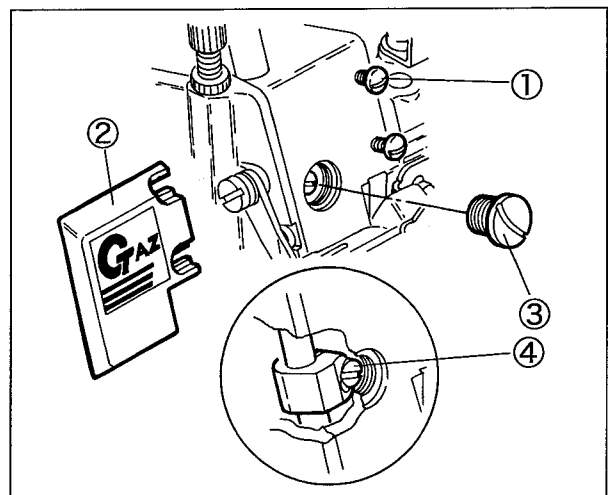

Fig. 55
- (1) Loosen the screws ① to remove the logo plate ②. (Fig. 55)
- (2) Remove the screw ③.
- (3) Rotate the machine pulley to raise the needle bar at the highest point.
- (4) Loosen the screw ④ and adjust the needle bar while moving it up and down.